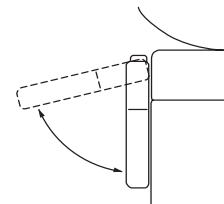

Fig. 4-3 Armrest Rotation
6) Armrest Rotation (See Fig. 4-3.)